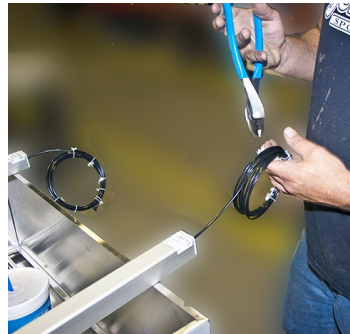

Fig. 16: Remove leg line zip tie
1. Cut the zip tie from each new hydraulic leg line (Fig. 16).